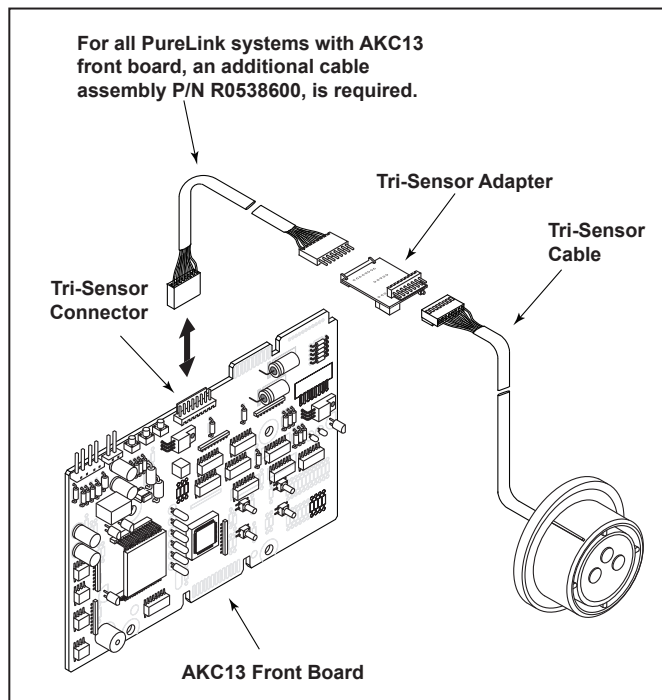

Figure 4. Installation of the Tri-Sensor Adapter on an AKC13 Front Board
- Connect the cable assembly P/N R0538600 to the tri-sensor adapter and the tri-sensor connector of the AKC13 front board. See Figure 4.